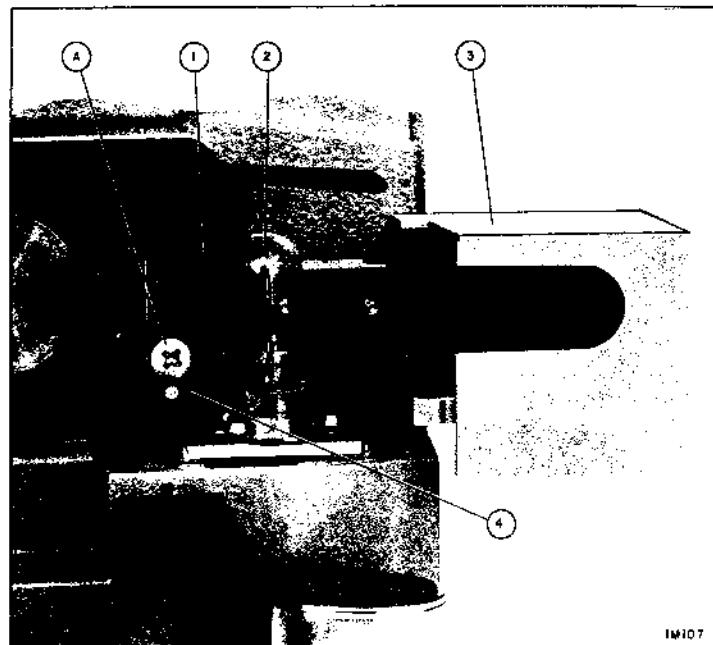

Figure 10
8. Remove exciter lamp **(2)** (figure 10).